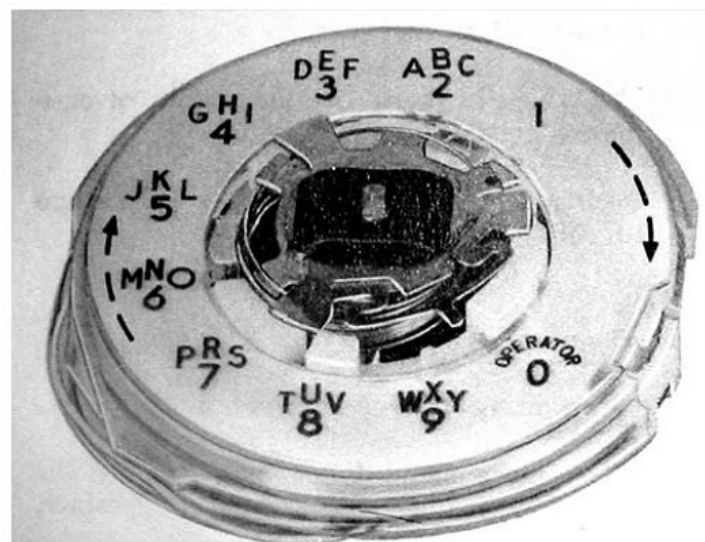

Fig. 32—8-Type Dial, Removal of Number Plate
- (1) Remove fingerwheel (see paragraph 3.19 for plastic fingerwheel or paragraph 3.37 for metal fingerwheel).
- (2) Remove fingerstop by depressing plastic locking tab.
- (3) Rotate number plate clockwise approximately 1/2-inch, lift number plate from dial clearing tabs of clamp plate (Fig. 32).
- (4) Before placing new number plate on the dial, wipe face of light guide clean.